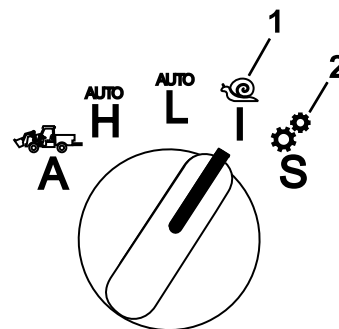

Figure 1
- Ensure the mode selection is not in SETUP or INCHMODE (Figure 1). In these modes, the 3-point hitch will raise beyond any maximum-lift height setting.